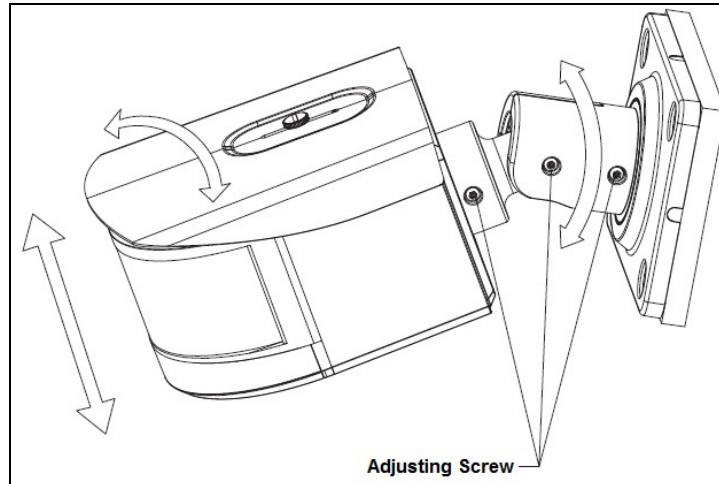

Figure 4-4
- Adjust the monitoring direction of the camera. Use the Multi-purpose Tool to loosen the three set screws along the shaft of the camera, then position the camera by tilting, twisting, and rotating the camera as shown in Figure 4-4, below.